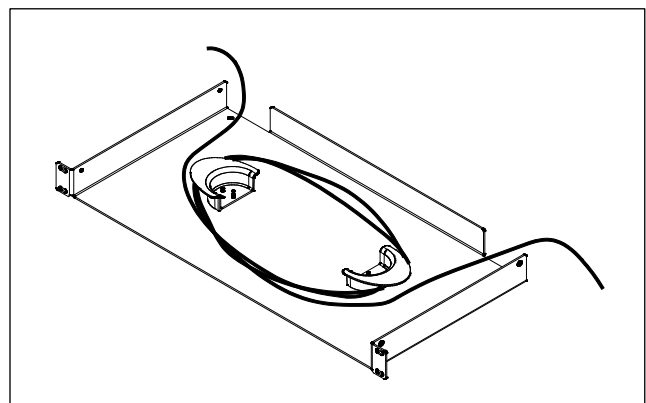

Figure 12 Fiber Routing
2. Coil the fiber slack inside the tray through one of the openings in the rear of the tray. Wind the fiber around the bend controls, observing the proper bend radius. Fiber exits through the second opening on the rear (Figure 12).